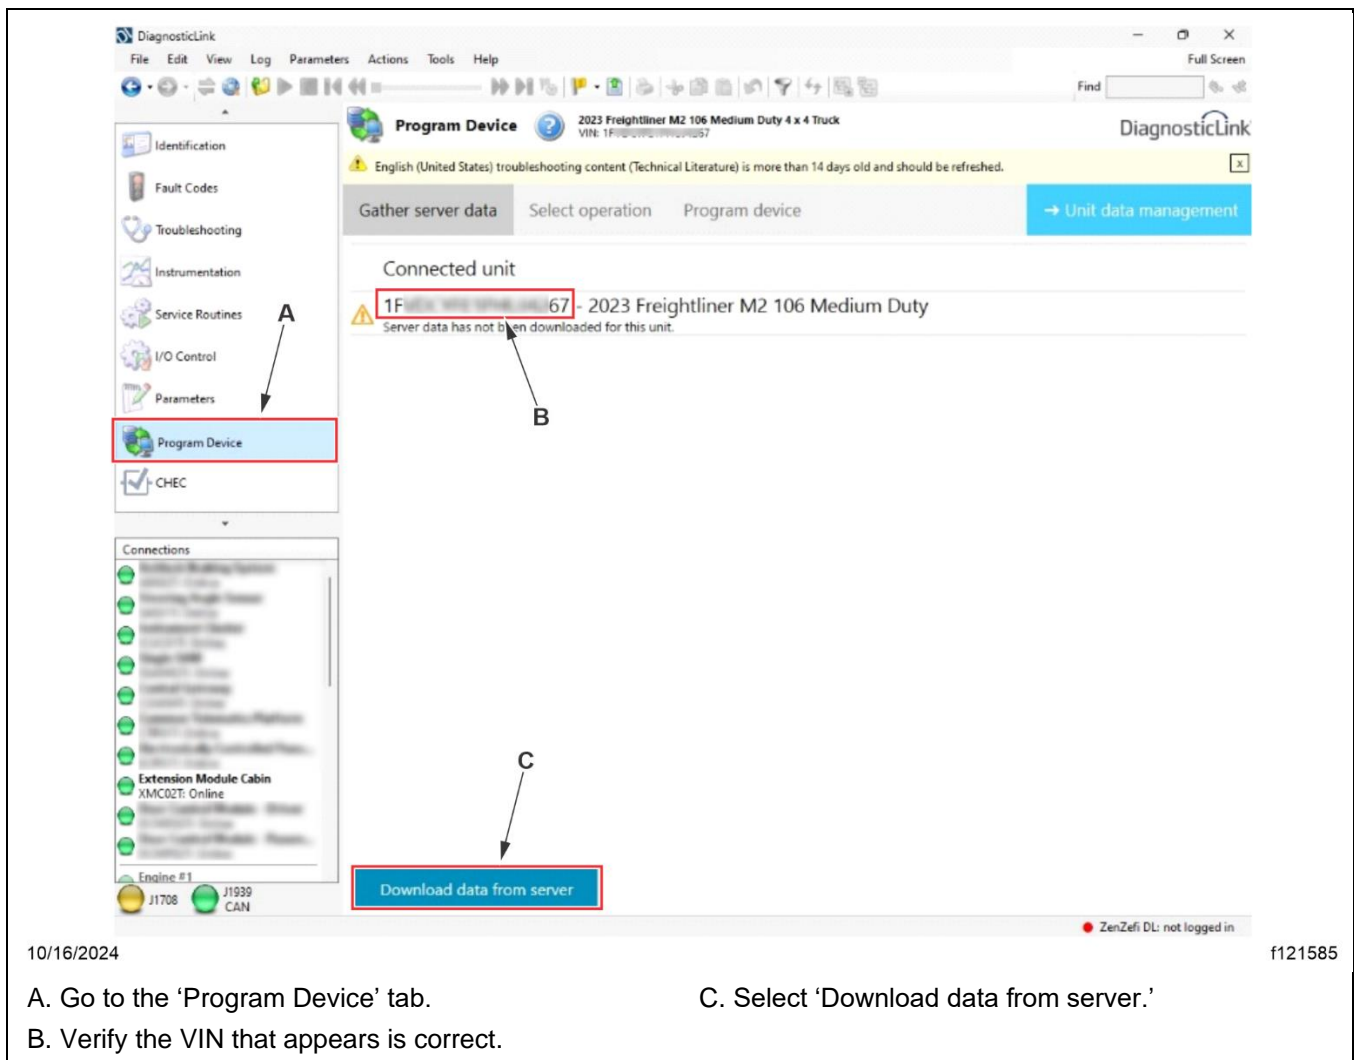

Fig. 2, Downloading Data from the Server
- Go to the 'Program Device' tab, and make sure that the vehicle identification number (VIN) that appears is correct. Select 'Download data from server.' See Fig. 2.